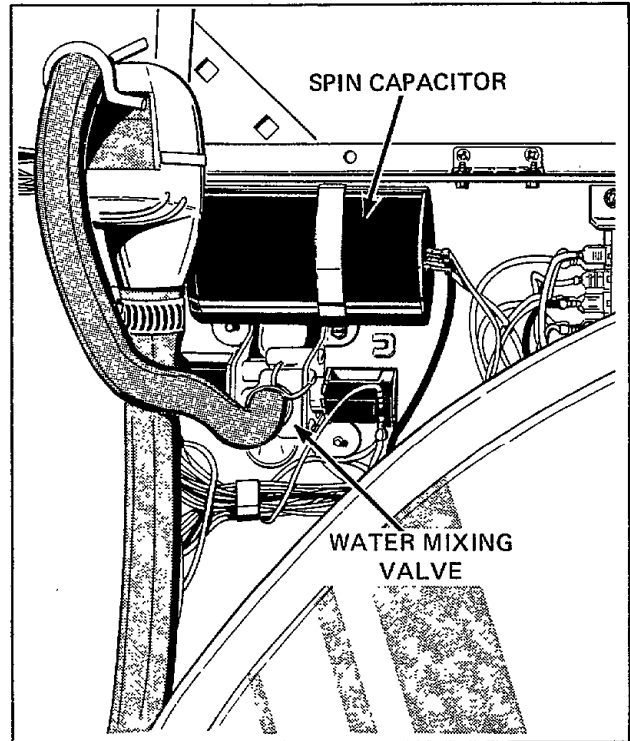

Figure 24
**26. WATER MIXING VALVE (Refer to Figure 24)**